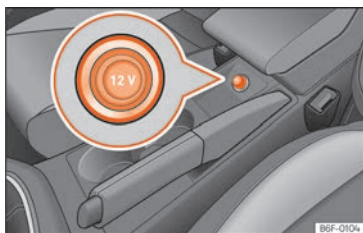

Fig. 134 Vehicle 12-volt socket.
- Remove the plug from the socket located in the centre console »» Fig. 134.